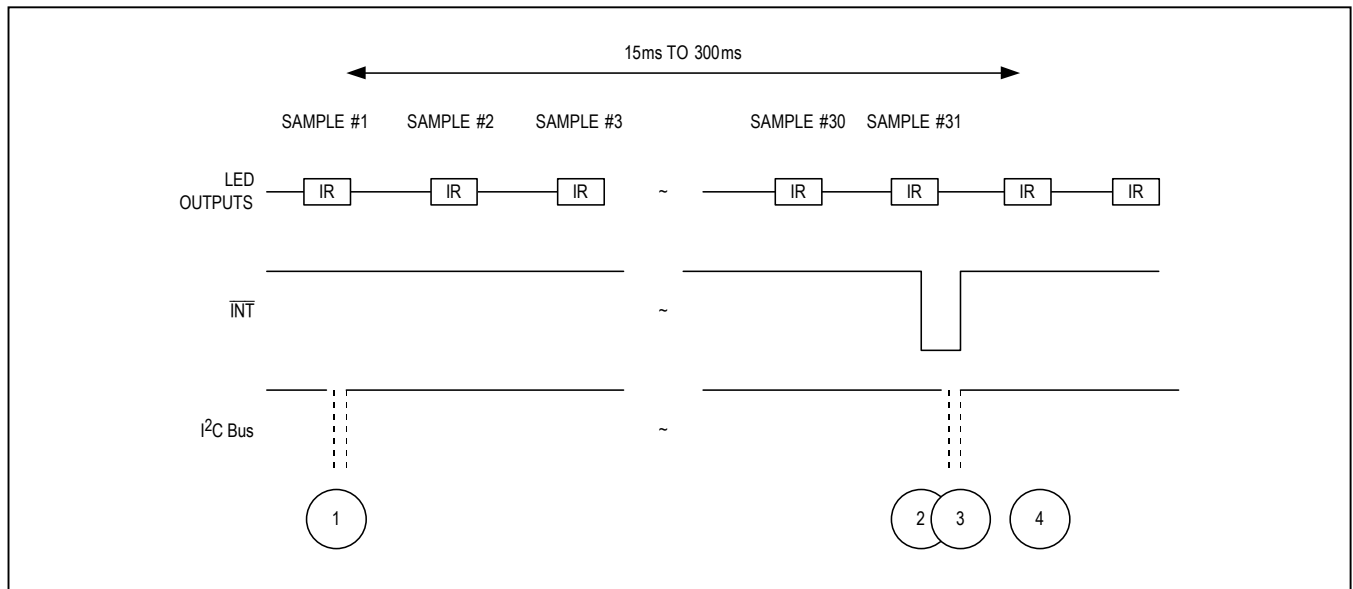

Figure 5. Timing for Data Acquisition and Communication When in HR Mode
The internal FIFO stores up to 32 samples, so that the system processor does not need to read the data after every sample. In HR mode (Figure 5), unlike in SpO2 mode, temperature information is not necessary to interpret the data. The user can select either the red LED or the infrared LED channel for heart rate measurements.
**Table 16. Events Sequence for Figure 5 in HR Mode**